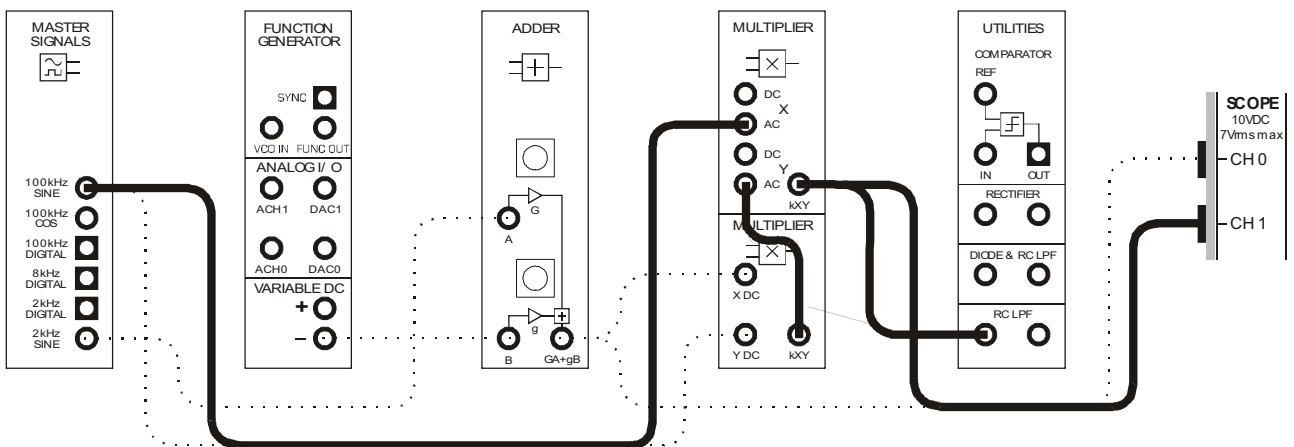
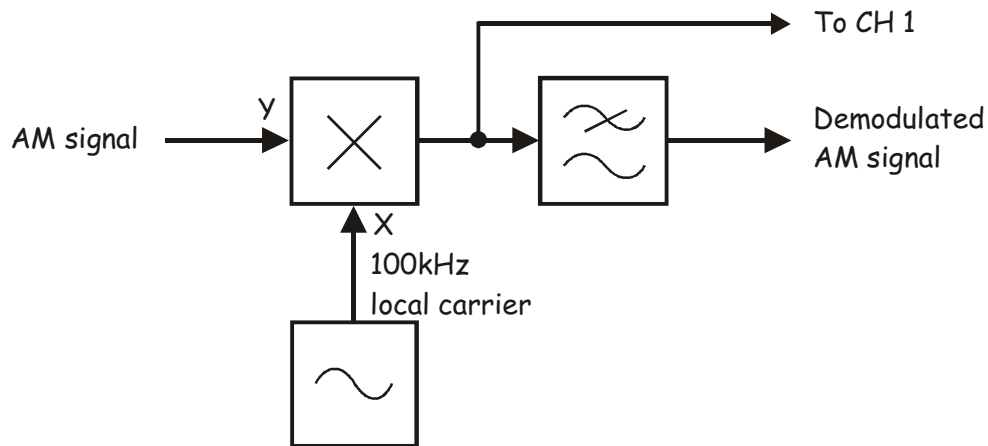

Figure 8
Figure 9
40. Modify the set-up as shown in Figure 8 below.
The additions to the set-up in Figure 8 on the previous page can be represented by the block diagram in Figure 9 below. The Multiplier module models the mathematical basis of AM demodulation and the *RC Low-pass filter* on the Utilities module picks out the message while rejecting the other sinewaves generated.